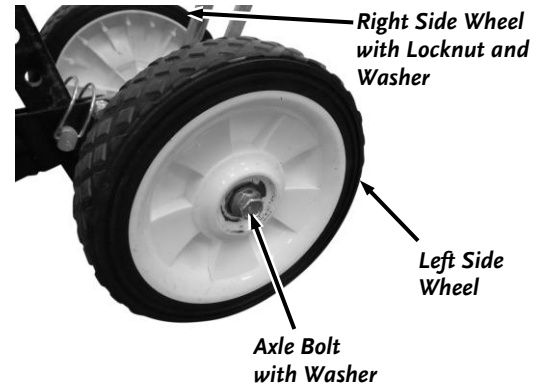

Figure 15
1. Hold the Axle Bolt securing the left side Wheel using a 14mm Wrench and remove the Locknut and Washer on the right side using a 14mm Wrench (**Figure 15**).